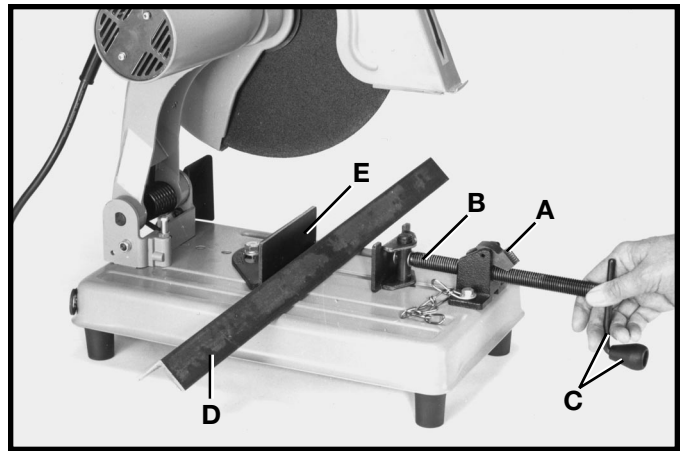

Fig. 10
1. Lift half-nut (A) Fig.10, off screw (B).
2. Pull out screw handle (C) Fig.10, far enough to allow workpiece (D) to be placed in vise opening against rear vise clamp (E) as shown. **NOTE:** It is not necessary to thread screw handle (C) when the half-nut (A) is in the raised position. The screw handle (C) can be rapidly pulled out or pushed in.